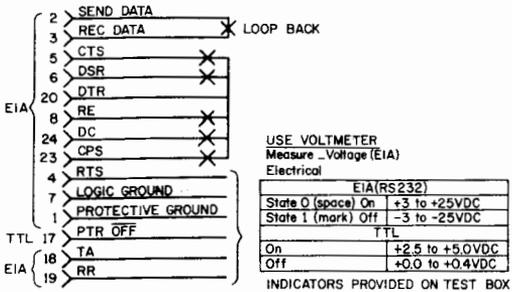

Fig. 4
1.12 Independent off-line test procedures are provided to simulate on-line tests. Off-line checkout of Option 453 will require placing the PTU into the loopback mode (see Fig. 4). To perform these tests, the connector terminals, as shown in Fig. 4, should be strapped before proceeding with the tests. The remaining terminals, should be connected or measured as specified during the test steps.